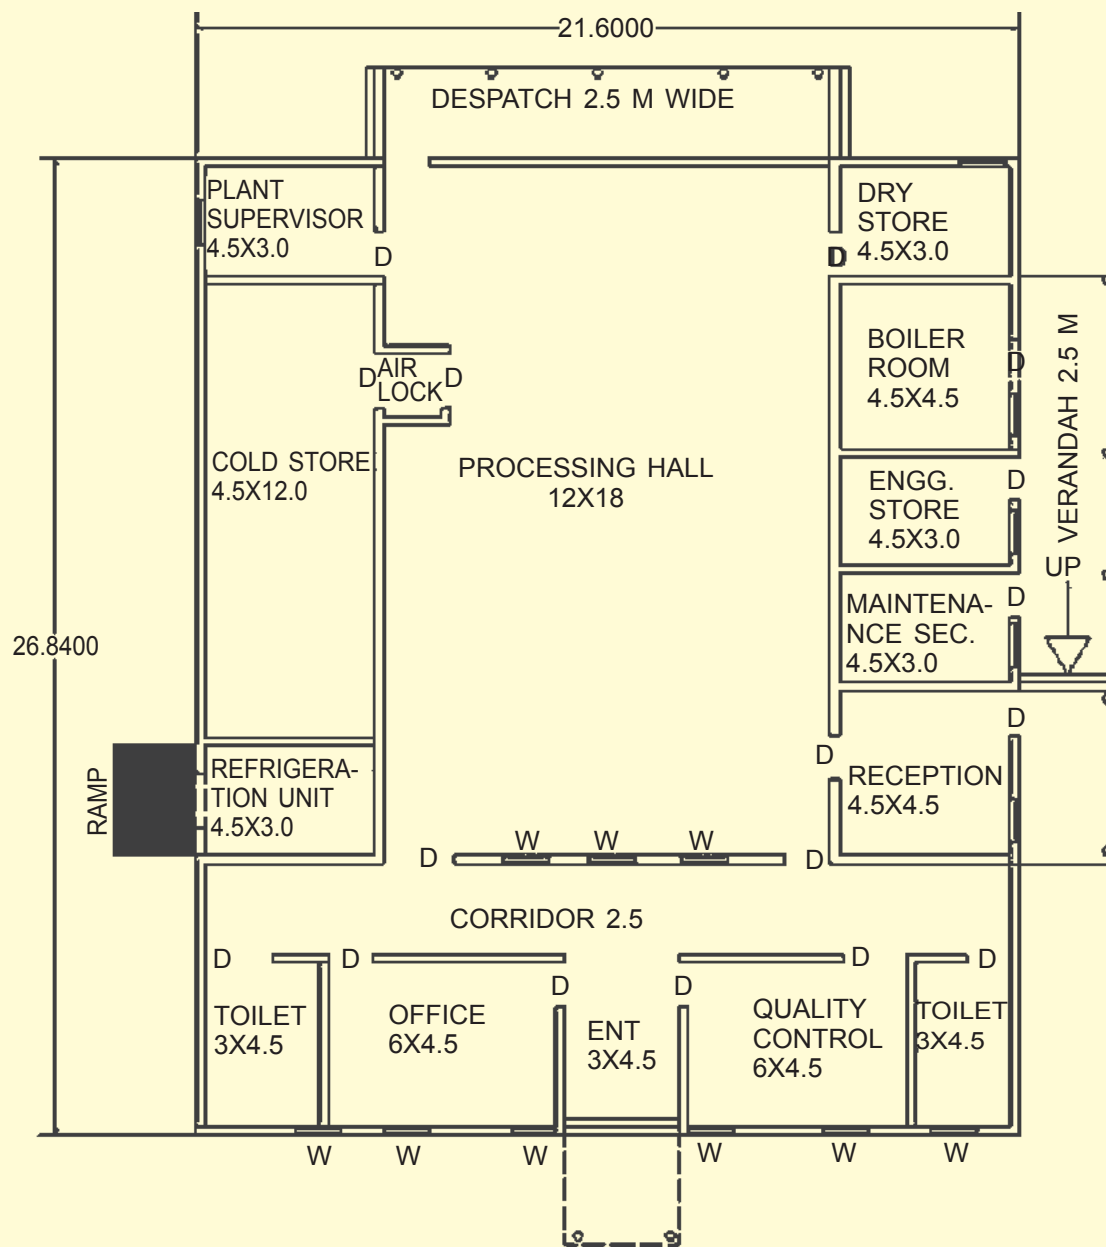

Fig.16.1. Layout of a milk processing plant (Capacity 20,000 to 40,000 litres milk per day)
3. Various sections are arranged together. It gives the total layout of the dairy plant building as shown in the figure 16.1.